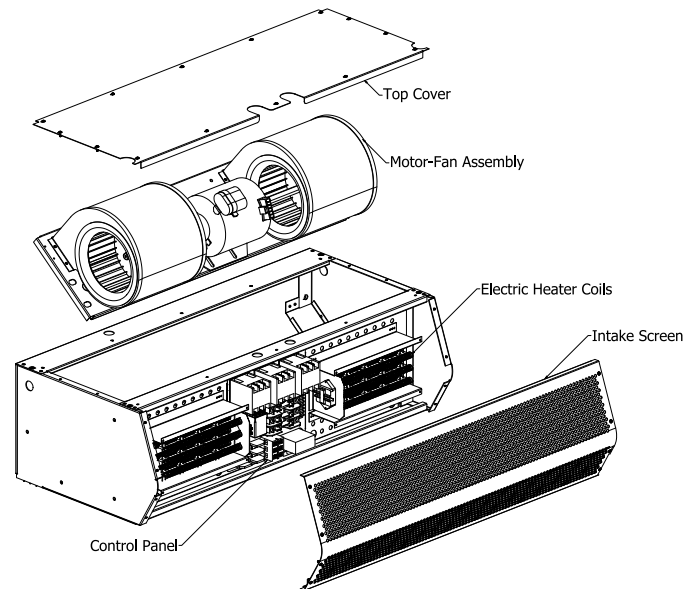

FIG. 1 (Electric Heated STD2 unit)
1. Electric heated Low Profile 2, Standard 2, High Velocity 2, Extra Power 2, and Phantom series units come standard with internally mounted controls with 24V control circuit (FIG. 1).